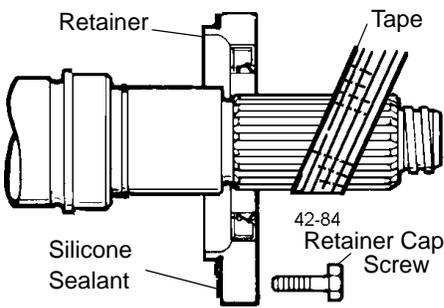
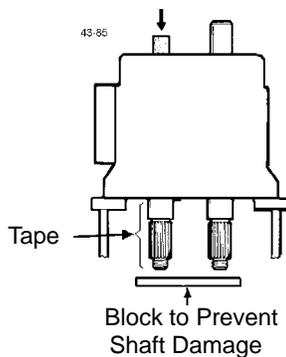

Figure 71 - Remove Bearing Retainers
Figure 73 - Press Shafts from Gear Case
NOTE: Protect the liquid end of the shafts by wrapping them with tape. See Figure 71 and Figure 73.
- Remove the front bearing retainer screws and pull off the bearing retainers (Figure 71). If a retainer is stuck, leave it in place; it will press out when the shaft is removed.
- Place the gear case on an arbor press with the liquid end facing down. Protect the shaft ends with a wood or plastic block (Figure 73) and press the shafts out of the gear case. See Table 8, "Arbor or Hydraulic Press Required (Tons)," on page 54.